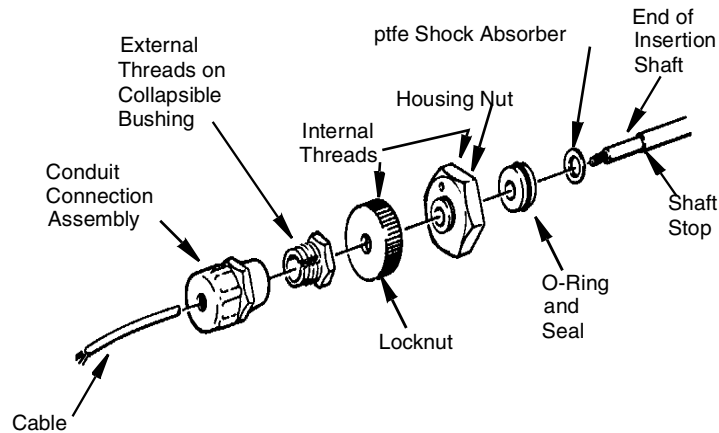

Figure 8. Assembly of Parts Onto Gate-Valve Insertion Sensor Cable
3. Assemble parts onto the gate-valve insertion sensor cable as shown in Figure 8.